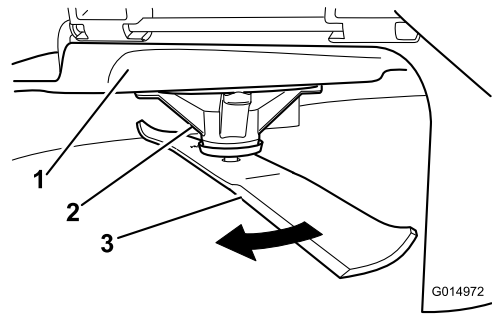

Figure 90
2. While wearing thickly padded gloves, or other adequate hand protection, slowly rotate the blade into a position that allows you to measure the distance between the cutting edge and the level surface the machine is on (Figure 90).